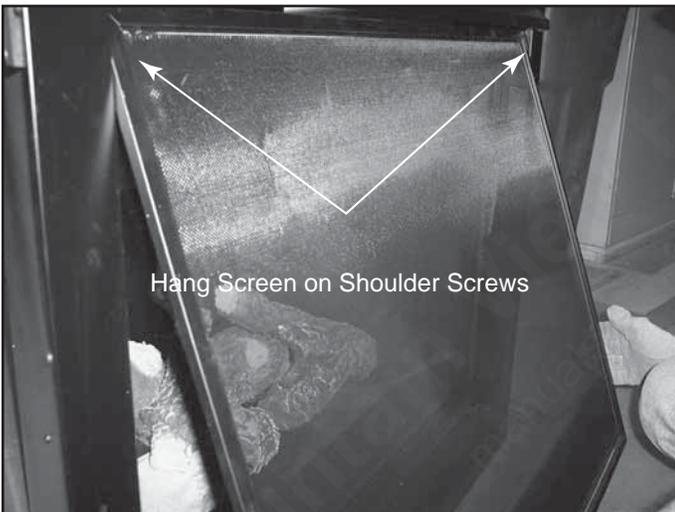

Figure 15.13 Hang Screen
- Hang the screen on the shoulder screws in the columns. See Figure 15.13.